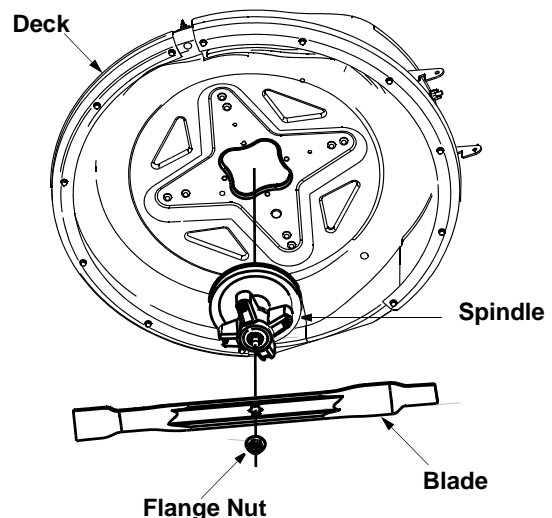

Figure 17
- Remove blade from the spindle. See Figure 17.